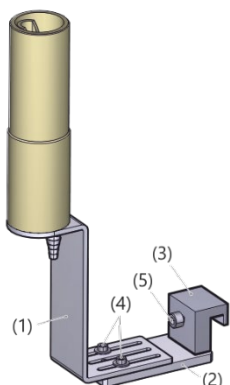

Figure 4. 6.2841.110 Rinsing Station
The holder of the Rinsing Station (**Figure 4**) consists of a double angled support bracket (1), a base plate (2) and a clamping fastener (3). Two 2.5 mm Allen® screws (4) fasten the support bracket to the base plate and allow the adjustment of the rinsing station in axial direction. The 4 mm Allen® screw (5) on the clamping fastener is used to fix the position of the rinsing station on the assembly rail.